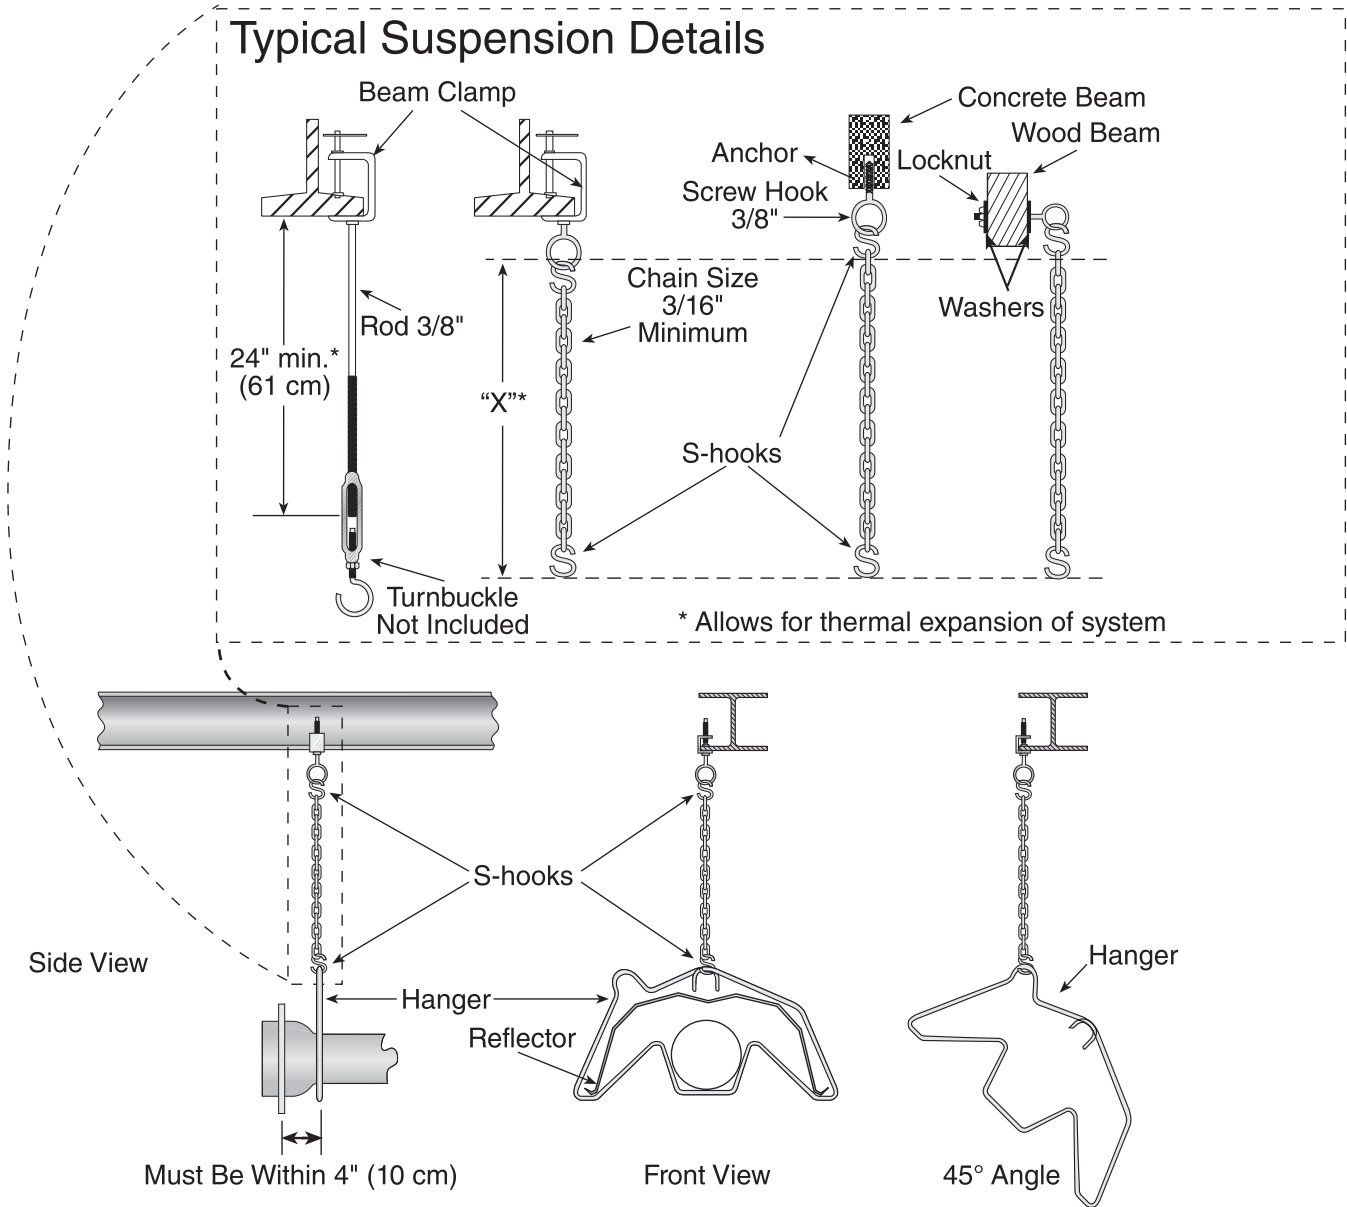

Figure 15. Typical Indoor Heater Suspension
- Using hoist, lift, or sufficient personnel to support tube assembly, connect each suspension bracket to each building or structure suspension point using S-hooks in accordance with Figure 15 or Figure 16.